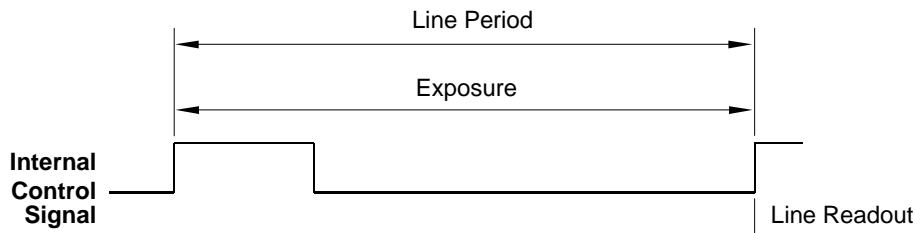

Fig. 27: Free Run, Edge Controlled Mode
- In **free run edge controlled** mode, line acquisition begins on the rising edge of the internal control signal. The pixels are exposed and charge is accumulated over the full line period (from rising edge to rising edge of the internal control signal). The falling edge of the control signal is irrelevant. The pixel values are read out of the sensor on the rising edge of the internal control signal as shown in Figure 27. The line period is determined by the setting for the line period parameter.